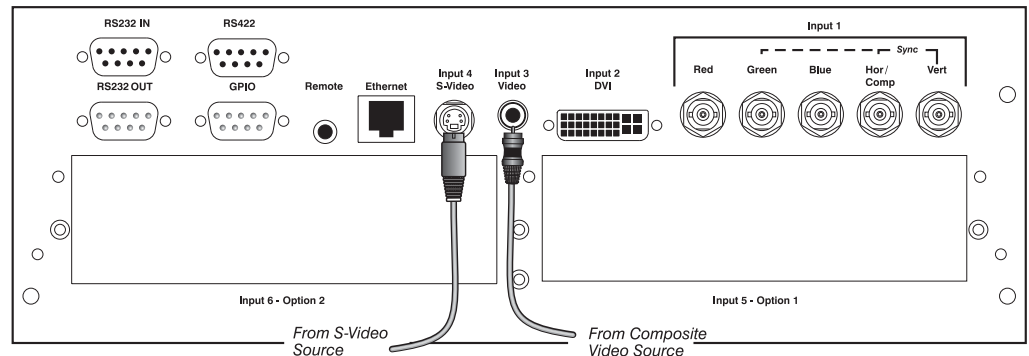

**Figure 2.10. Connecting Composite or S-Video sources**
**Composite and S-Video** ➤ **INPUT 3** and **INPUT 4** provide simultaneous connection of both a composite video source (**INPUT 3**) and an S-Video source (**INPUT 4**). See Figure 2.10.